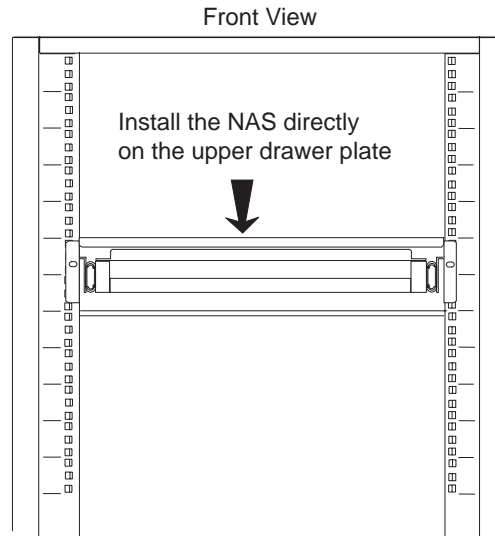

Figure 1-21. NAS Installation in 29 U Rack
1. ____ Install the NAS on the upper drawer plate Figure 1-21.